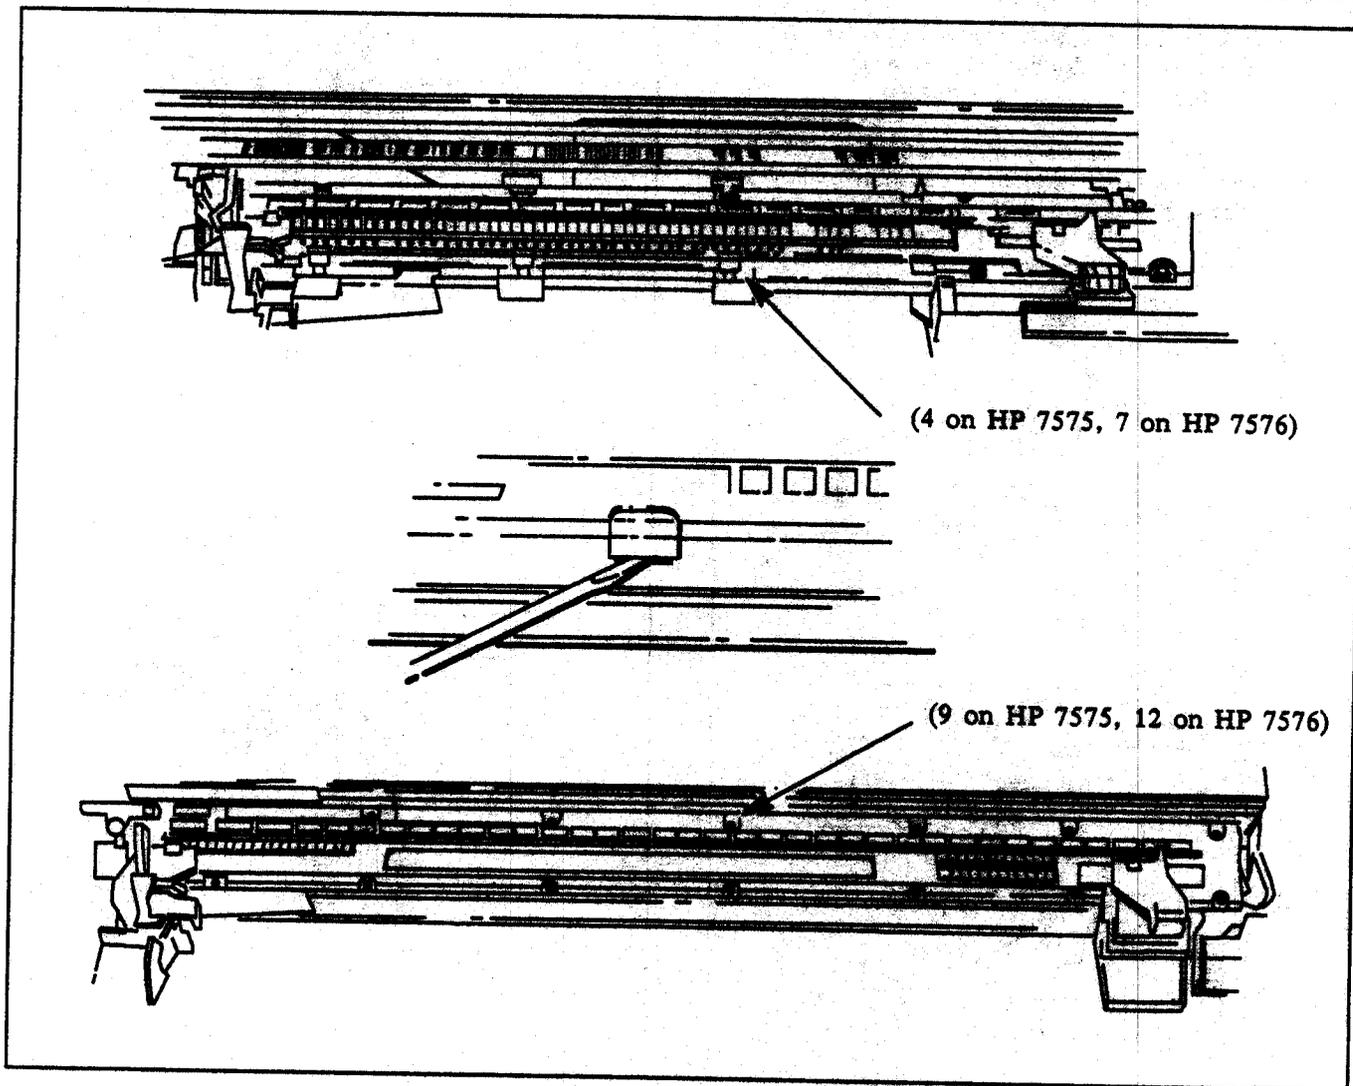

Figure 6-29. Center Platen Removal
- h. Remove the press-in screw caps by gently prying them up with a flat-blade screw driver. See Figure 6-29.
- i. Remove the Torx screws securing the center platen to the plotter. See Figure 6-29.